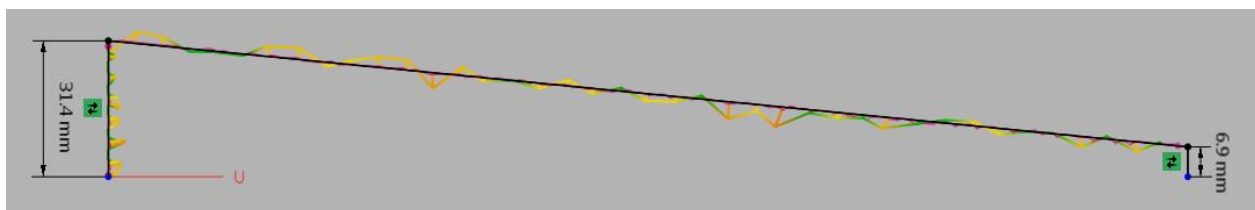

Figure 445
- Change the dimensions to the best fit height, or adjust to match **Figure 445**.